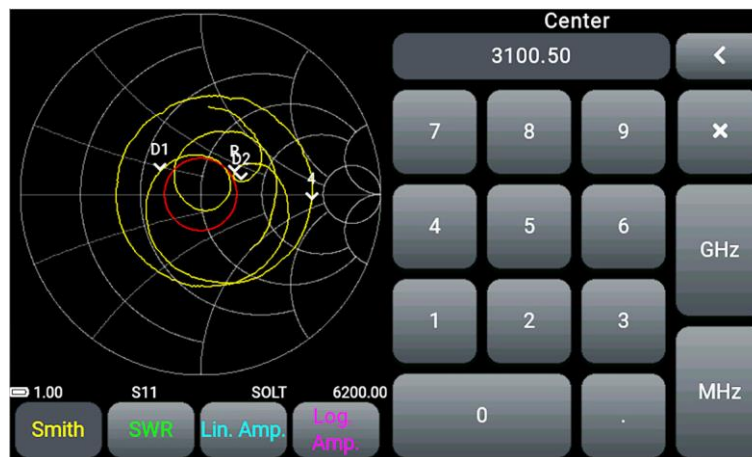

Figure 9.3 - Entering numerical values of frequency parameters
9.2.3. The frequency parameters **Center**, **Span**, **Start** and **Stop** are set by entering a numerical value in the opened submenu, as shown in Figure 9.3. The resolution of setting the frequency parameters is 100 Hz in the frequency range up to 100 MHz and 10 kHz in the range from 100 to 6200 MHz. Enter the numerical value of the frequencies in **MHz** or **GHz** and press the corresponding button. To delete incorrect or previously entered values, press < (**Delete**). Press × (**Cancel**) to exit the menu without entering values.